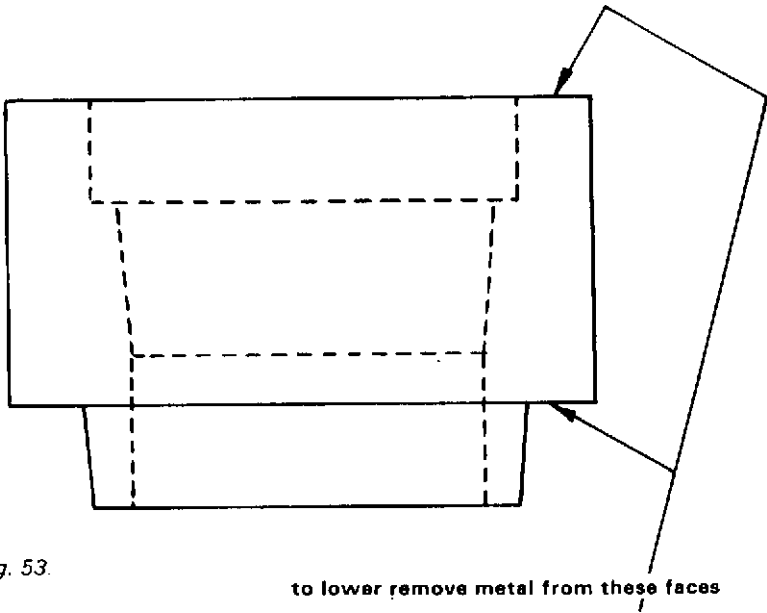

Fig. 53.
S.A.H. has a rate of 380 lb. per inch and a free length of 9.2" which means it is suitable as a straight swop on the earlier TR4. To use the competition springs on the later models we have to reintroduce the aluminium packing piece. If the competition springs are used, additional lowering can be achieved by machining the aluminium packing piece. These can be machined top and bottom to achieve the desired ride height (see Fig. 53). The amount to be taken off the blocks is not in direct proportion to the amount of lowering. The ratio between metal removed from the blocks to the change in ride height is about 5/8:1 i.e. 5/8" off the blocks will lower the ride height by about 1 ". When refitting the blocks do not refit the top rubber packing piece. If the ride height needs to be increased as would be the case for rallying, then this can be simply accomplished. On the early models, with the packing piece, fit the later long spring. On the later models, with the long spring, fit the packing piece. In each case this will raise the ride height of the front by about 1 3/4 - 2" If this is too much, then the packing pieces can be machined to make the necessary adjustments. If the S.A.H. competition spring is used which is 9.2" long, shorter than either standard spring, then the ride height must be adjusted by fitting an additional packing pie - That is, two packing pieces will be needed at the top of each spring, the standard one plus one to make up for the shorter length of spring.